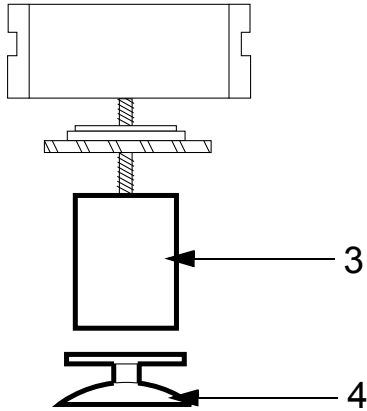

Fig. 12 Replacing the filter sleeve
- 4 Unscrew clasp nut (Fig. 12/4).
- 5 Remove filter sleeve (Fig. 12/3) and replace with new one.
- 6 Tighten clasp nut (Fig. 12/4).